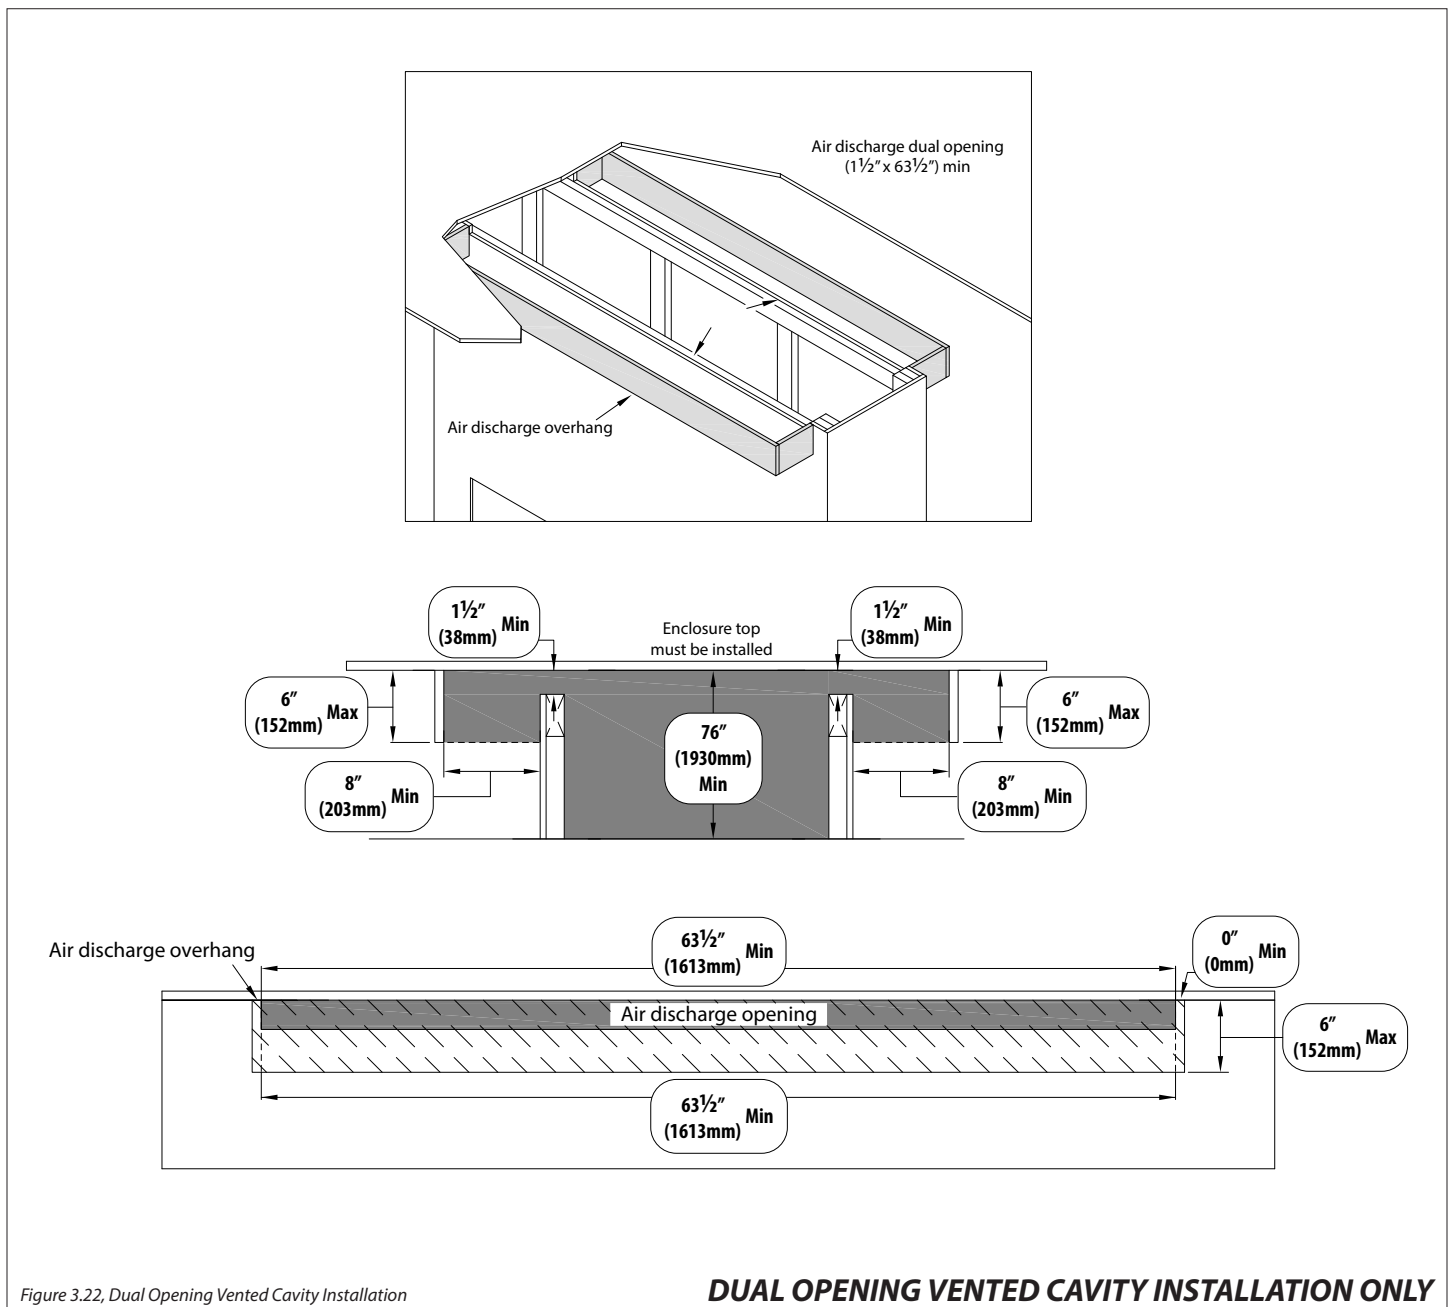

Figure 3.22, Dual Opening Vented Cavity Installation
- Figure 3.22 shows the minimum required dimensions for the dual opening vented cavity air discharge openings. The dual 1-1/2" (height) x 63-1/2" (width) air discharge openings are best for installations where the fireplace is dividing two rooms.
- Figure 3.22 is shown with air discharge overhangs in front of the air discharge openings. This optional installation method can provide a means to visually hide the air discharge openings.